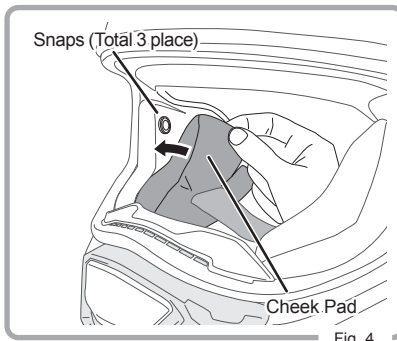

Fig. 4
5. Fasten the 3 snaps. (Fig. 4)